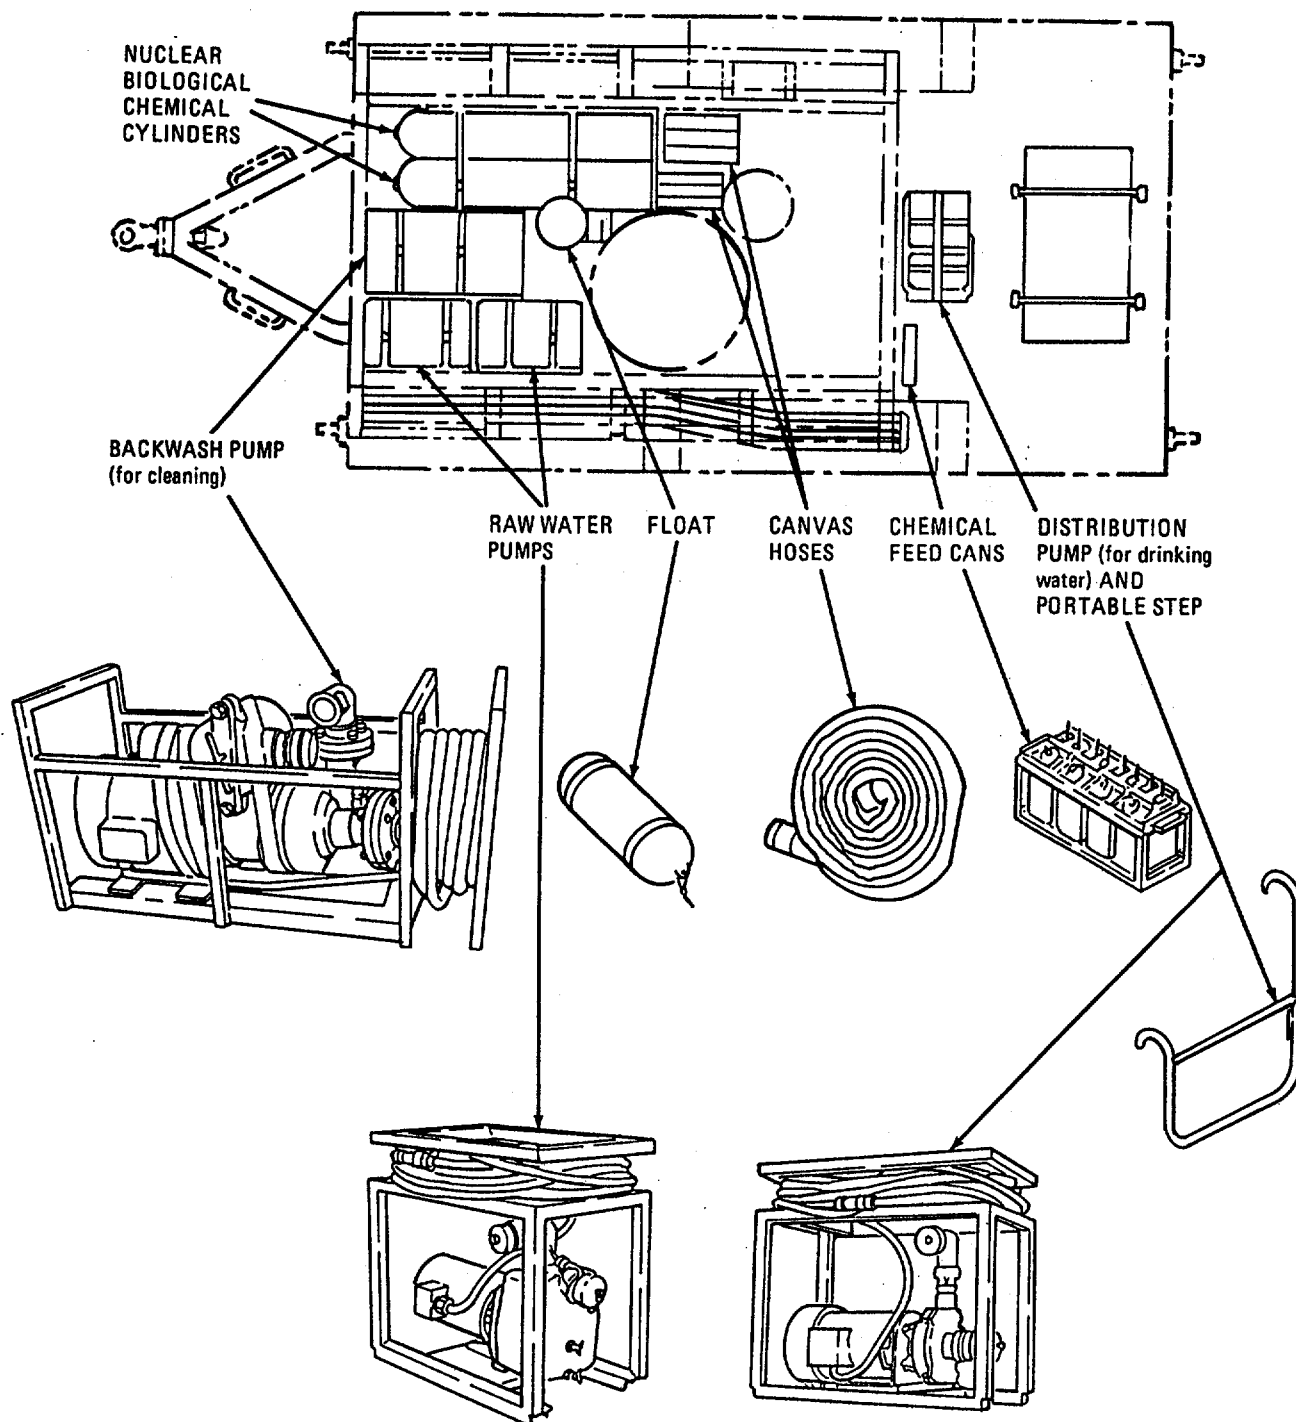

FIGURE 1-5. TOP VIEW OF ROWPU WITH PUMPS (ARMY).
b. Second Layer. In the second layer you will find two raw water pumps and a backwash pump (figures 1-5 and 1-6). The pumps are covered with canvas and strapped down. (ARMY) A distribution pump is located at the rear of the unit next to the generator, but is not shown here (AF and MC are packed separately). Army ROWPU includes a portable step strapped down with distribution pump. On the right side are 1-1/2 inch and 2-inch diameter discharge (canvas) hoses, rolled-up. A raw water float is in the center of the ROWPU next to one nuclear, one biological, chemical (NBC) cylinders. Figures 1-7 and 1-8 show ROWPU with operating equipment removed.